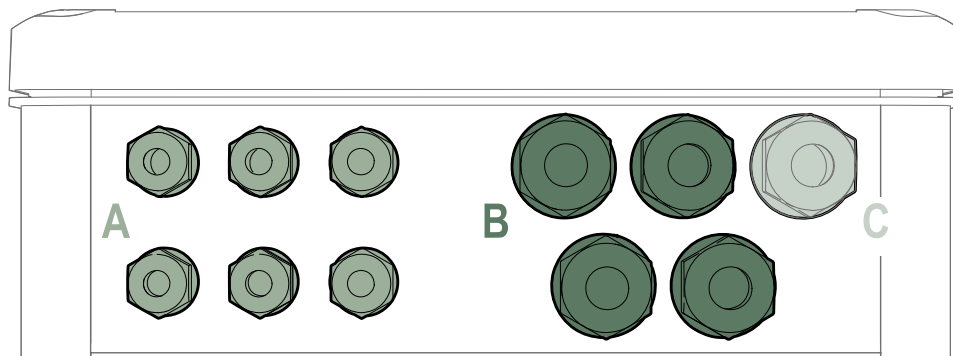

Fig. 7: Front view of cable glands
1. Insert the cable in the cable gland shown in Fig. 7 (Cable gland C)
Depending on the application, the user can make other electrical connections, see Fig. 7.